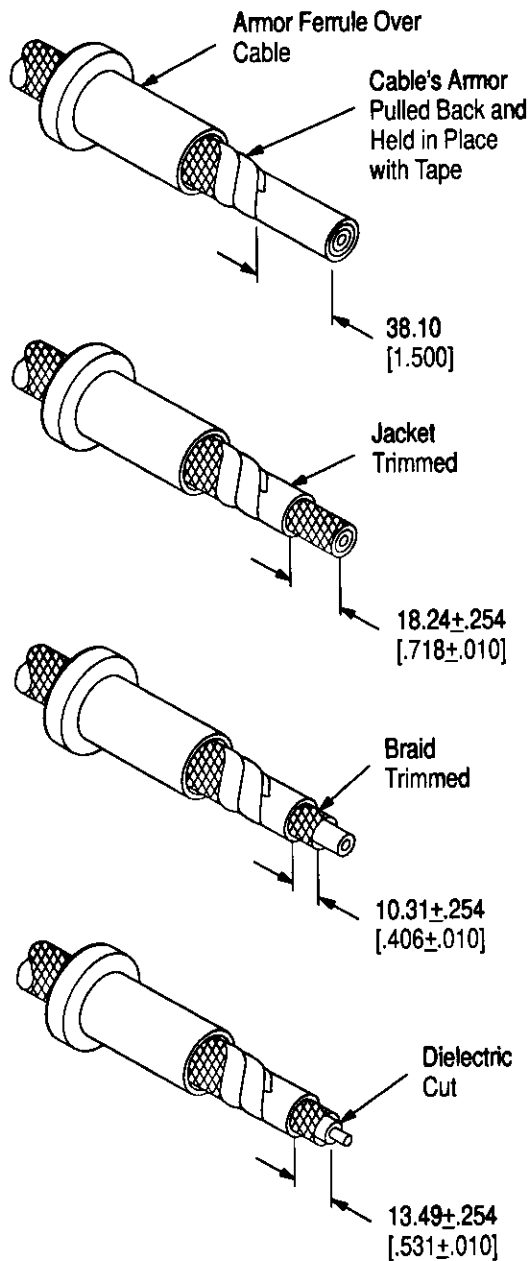

Figure 4
- Slide the armor ferrule over the cable. Pull the cable's armor back so that 38.10 [1.500] of the cable jacket is exposed. Wrap the end with tape to hold it in place. See Figure 4. Then, strip the cable to the dimensions shown in Figure 4.